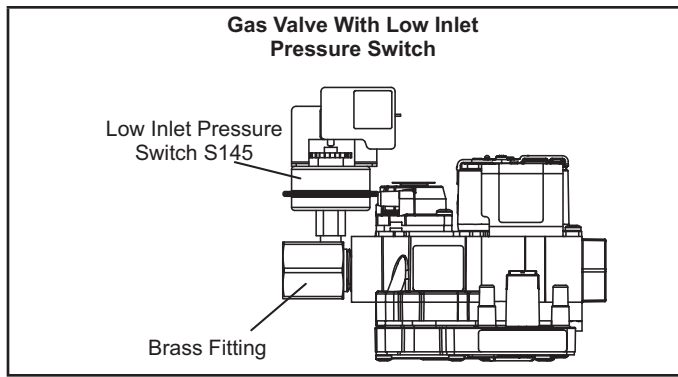

FIGURE 3
- 8 - Thread provided fitting to gas valve inlet until hand tight. Using properly sized wrench, tighten fitting 2 to 3 full turns being careful to position the side port to allow clearance for the pressure switch and harness. See FIGURE 3 or 4.
NOTE - Some installations may require the pressure switch and fitting assembly to be positioned differently than shown in FIGURE 3 and 4.